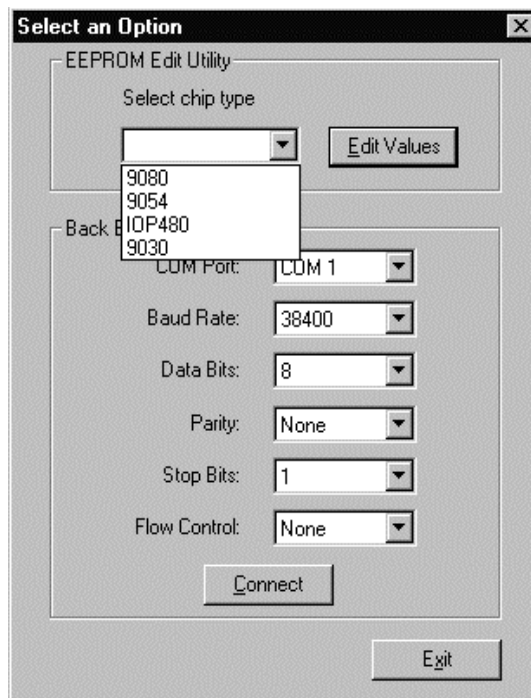

Figure 2-4. EEPROM Edit Utility
The EEPROM Edit Utility allows you to program a blank EEPROM. (Figure 2-4)
2. Click on download. By reading the status screen, you can verify that the program was successfully downloaded (See Figure 2-4).